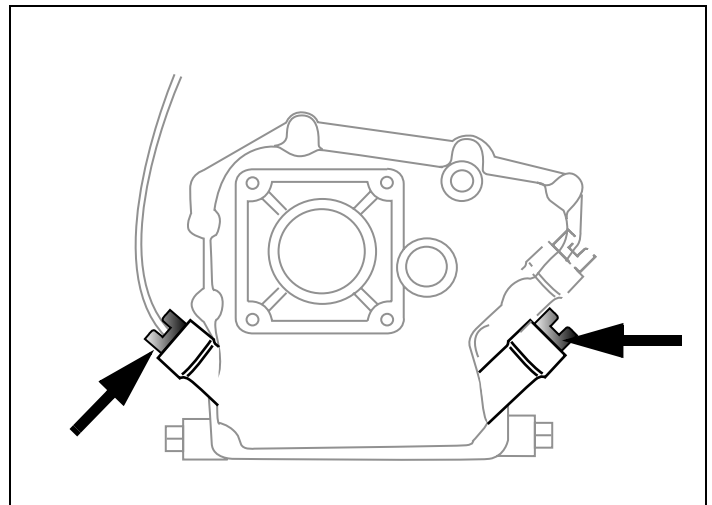

Figure 39. Possible Oil Fill Plug Location(s)
8. Fill with recommended oil. See "III. Oil and Fuel Specifications" instructions on page 5. See Table 1 and see Table 2 on page 5. See Figure 39.